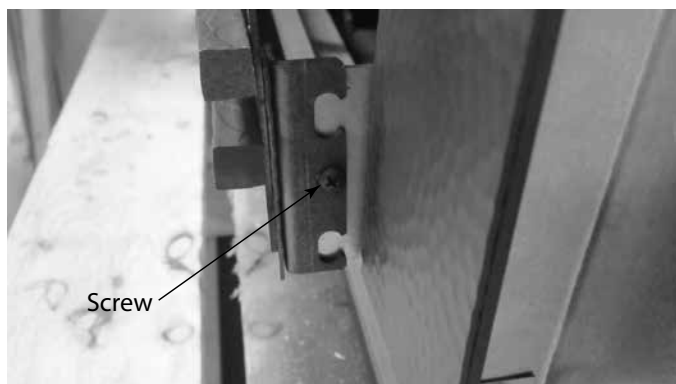

Figure 2.4 Remove Screws
1. While holding on to the access panel, remove the screws on each end. See Figure 2.4.